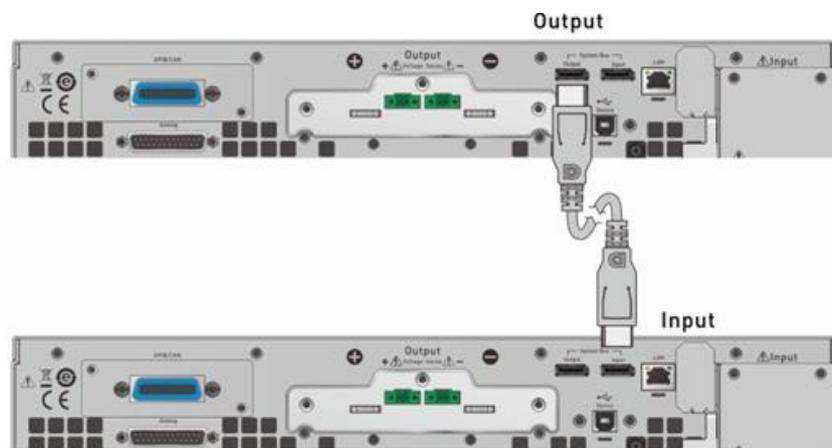
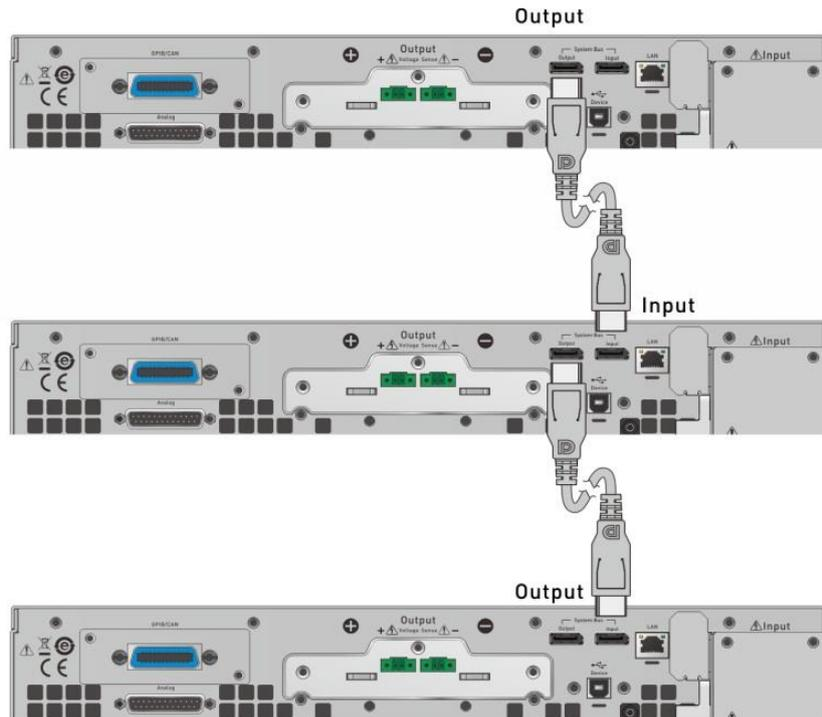

Figure 3-40
Figure 3-41
1. When two DC electronic loads are connected in parallel, the DisplayPort connector (W38-000418) on the rear panel must be connected as shown in Figure 3-40.
2. When three DC electronic loads are connected in parallel for operation, the DisplayPort connector on the rear panel must be connected as shown in Figure 3-41.
Each DC electronic load has two DisplayPort female sockets and there is no difference between left and right connection ports but connected in series as shown in Figure 3-40 or Figure 3-41. The communication cable has a limit of 5 meters in length, do not exceed this limit to avoid an unstable signal. The DisplayPort communication cable connected to the last DC electronic load does not connect back to the first DC electronic load. **Please note that the DisplayPort communication cable must be 1.2 meters or longer.**